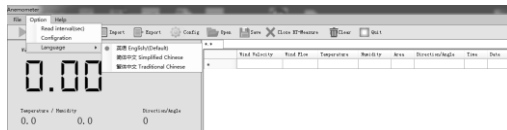

Figure 6
"Real Time Measure" to enter into measurement interface, select "Option" in menu bar, click the right triangle in "Language" to select language. As shown in Figure 6 below
- Toolbar: as shown in Figure 6 below (1) File, (2) Option, (3) Help.
- Button bar: as shown in Figure 6 below